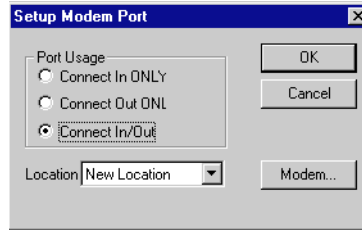

Figure 5 - Setup Modem Port Box
4. In the Select Modem Port dialog box (*Figure 5*), click the button marked Connect In/Out.
4. In the Select Modem Port dialog box (Figure 5), click the button marked Connect In/Out.